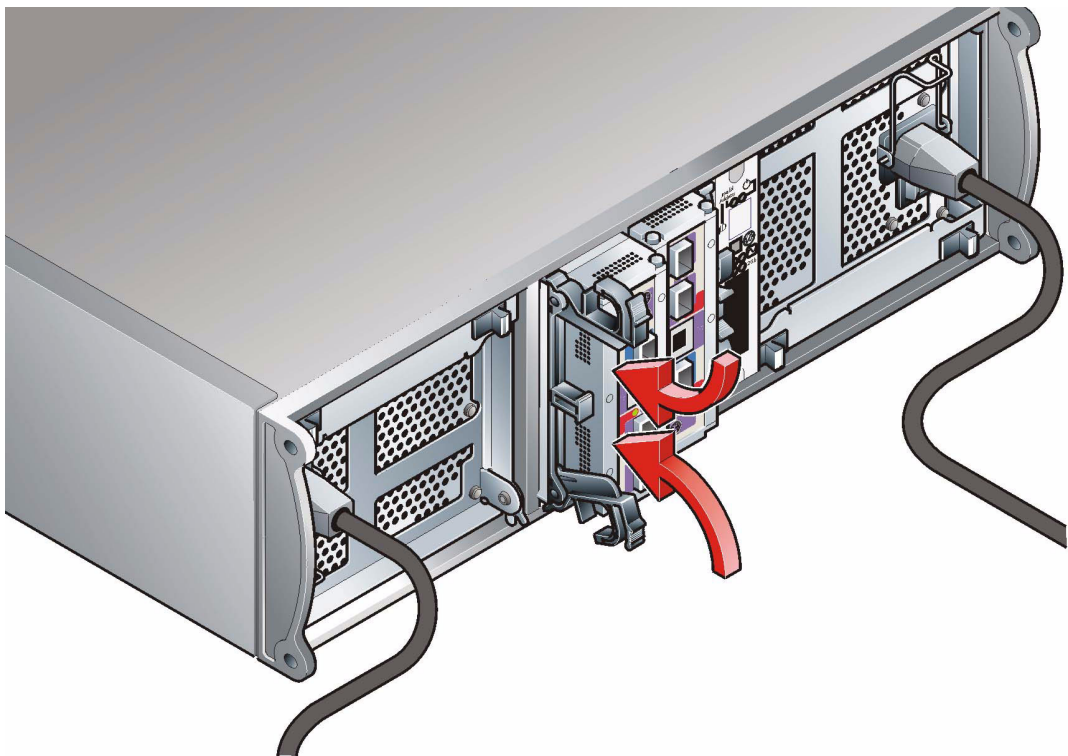

Figure 2-12 Installing an I/O Module
- 3 Cam the module home by manually closing the latches (see Figure 2-12).